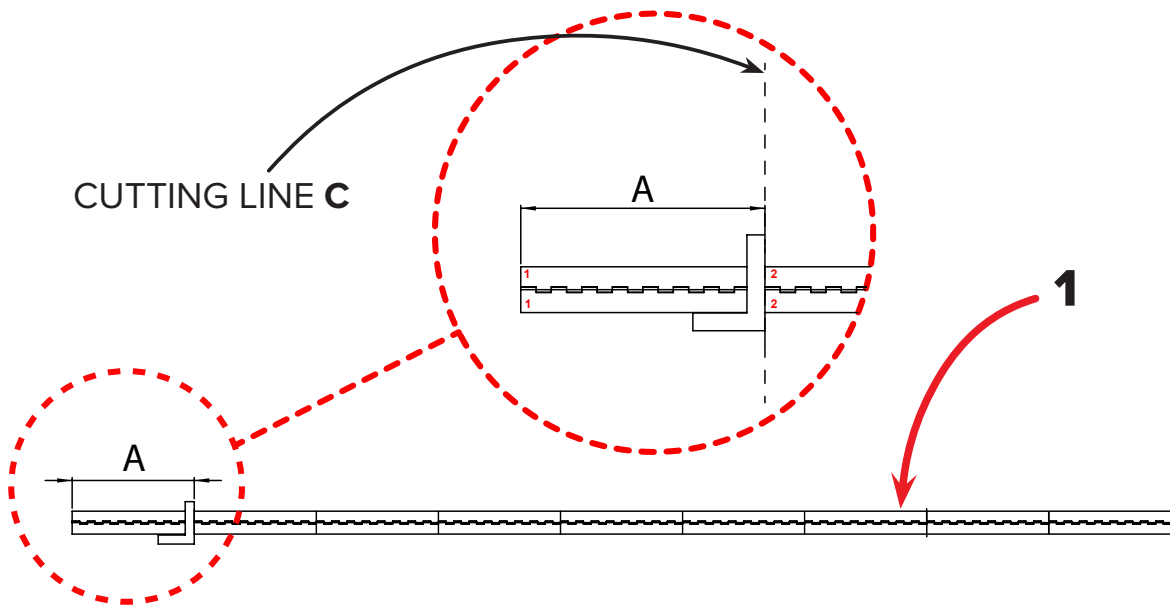

FIGURE 3-9A- CONTINUOUS HINGES
3. POSITION the Continuous Hinges **MS 20257-4** (1) on the bench, keeping them open;
4. MARK the **CUTTING LINE C** on the Continuous Hinges **MS 20257-4** (1) with a pen or pencil according to figure 3-9A:
| quantity of Hinge Set (8) | length A (SEE figure 3-9A) | |